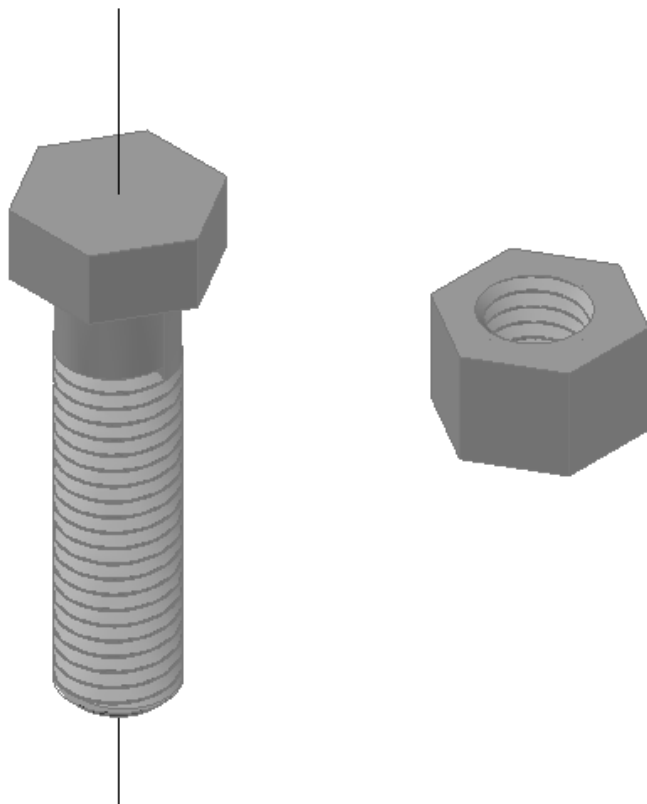

Figure Step 22
Step 22 Using the SUBTRACT command, Subtract the bolt from the nut to leave the nut threaded. (Figure Step 22)